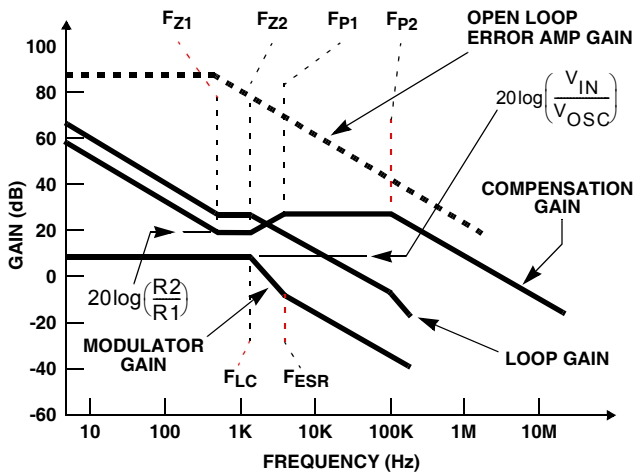

FIGURE 8. ASYMPTOTIC BODE PLOT OF CONVERTER GAIN
Figure 8 shows an asymptotic plot of the DC-DC converter's gain vs. frequency. The actual modulator gain has a high gain peak dependent on the quality factor (Q) of the output filter, which is not shown in Figure 8. Using the above procedure should yield a compensation gain similar to the curve plotted. The open loop error amplifier gain bounds the compensation gain. Check the compensation gain at  $F_{P2}$  with the capabilities of the error amplifier.